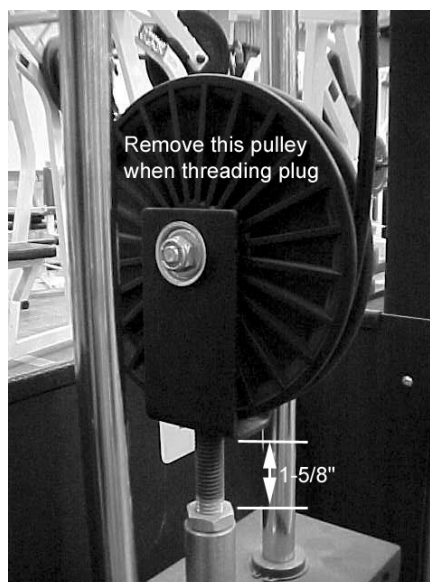

Figure 9. Bolt the floating pulleys into the 190 lb weight stacks.
5. **Bolt the floating pulley into the 190 lb weight stack** using a 7/8" combination wrench (NOT for the tricep pushdown weight stack- the one with the tricep back rest mounted to the frame as shown in Figure 7). You will need to remove the pulley from the housing to thread the plug into the weight stack bayonet. Make sure the 9/16" jam nut is threaded 1-5/8" away from the pulley as shown in Figure 9. Leave the pulleys out since you will need to have them out when the cable is routed.